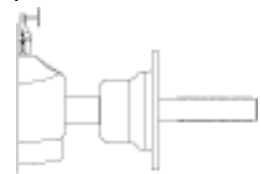

Figure 3-4
1. Turn balancer **OFF**. Enter in the calibration mode by holding down the “**CAL**” key 7 seconds and restarting the machine. Hold the key until the display flashes “**Cal Usr**”.
4. Press **F-OPT** button and the number one (1) will be displayed on right LED. Lower wheel guard and spin shaft assembly with no wheel, adapters or wing nut on shaft. (Figure 3-4)